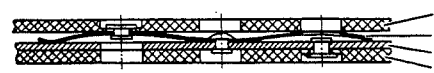

Fig. Ku 4/3
3. When refacing the clutch plate rivet the facings alternately to the metal sheet and the resilient sheet. The facings must not be secured with through rivets, but must be resilient in relation to each other (Fig. Ku 4/3).